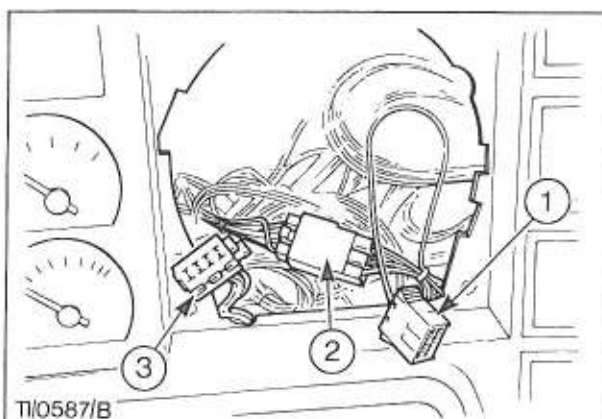

Fig. 4. New Harness Installation
7. Locate the white 6-way connector in the vehicle harness behind the fascia (see Fig. 4.) and disconnect it.
8. Connect the new harness (see Parts Required) to this connector, noting that the speedometer uses the new yellow connector from the new harness and the white connector from the tachograph (see Fig. 4).